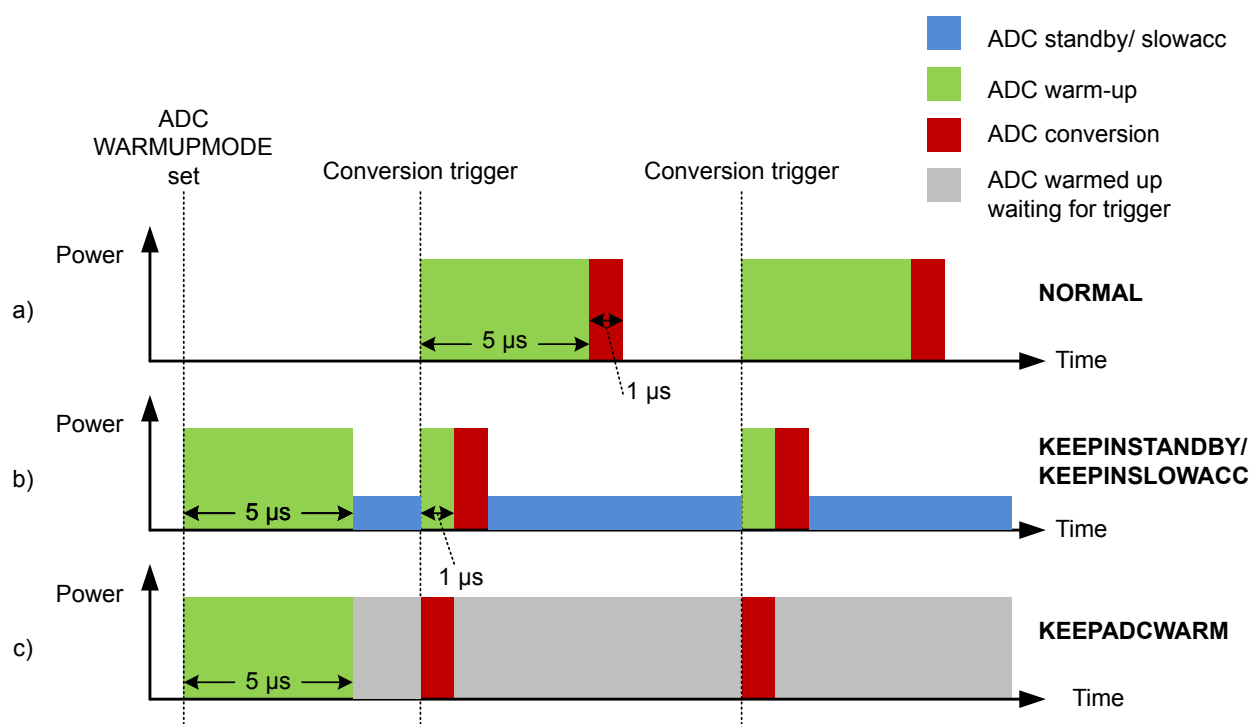

Figure 22.4. ADC Analog Power Consumption With Different WARMUPMODE Settings
Normally, the ADC will be warmed up only when samples are requested and is shut off when there are no more samples waiting. However, if lower latency is needed, configuring the WARMUPMODE field in ADCn_CTRL allows the ADC and/or reference to stay warm between samples, reducing the warm-up time or eliminating it altogether. Figure 22.4 ADC Analog Power Consumption With Different WARMUPMODE Settings on page 721 shows the effects on analog power consumption in scenarios using different WARMUPMODE settings.
- **NORMAL:** This is the lowest power option for general-purpose use and low sampling rates (below 35 ksp/s). The ADC and references are shut off when there are no samples waiting. The ADC does not consume any power when it is shut down. A 5 μ s warmup time will be initiated prior to every conversion. Figure a in Figure 22.4 ADC Analog Power Consumption With Different WARMUPMODE Settings on page 721 shows this mode.
- **KEEPINSTANDBY:** This mode is suitable for infrequent sampling of lower impedance inputs, and is the lowest power option for sampling rates between about 35 and 125 ksp/s. It may also be useful for lower sampling rates where latency is important. The reference selected for scan mode is kept warm, but the ADC is powered down. The ADC will initiate a 1 μ s warmup period before a conversion begins. Because the reference is kept warm, the ADC will consume a small amount of standby current when it is not converting. Figure b in Figure 22.4 ADC Analog Power Consumption With Different WARMUPMODE Settings on page 721 shows this mode.
- **KEEPADCWARM:** This mode provides the lowest latency and allows for maximum sampling rates. The ADC and reference circuitry remain powered on even when conversions are not in progress. Figure c in Figure 22.4 ADC Analog Power Consumption With Different WARMUPMODE Settings on page 721 shows this mode. This mode consumes the most power, but as soon as a trigger event occurs, the acquisition and conversion begin with no warm-up time. Note that if KEEPADCWARM mode is set and HFXO is selected as the ADC clock source, the HFXO will remain on in EM2.